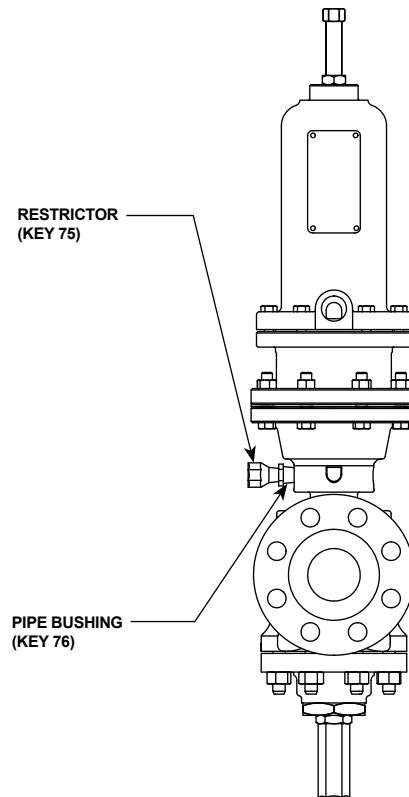

Figure 4. Type MR105 with High-Pressure Actuator and Restrictor Option
Restrictor is intended for use on liquid applications with high-pressure actuator. Refer to Figure 4.
The Type MR105 regulator requires a downstream control line for proper pressure control. A 1/2 NPT control line connection is located on the bonnet (for low-pressure actuator, see Figure 2) or on the lower diaphragm casing (for high-pressure actuator, see Figure 3). For high-pressure actuator with Quick Opening Cage (liquid service), pipe bushing (key 76) and restrictor (key 75) should be installed in the 1/2 NPT control line connection (see Figure 4).